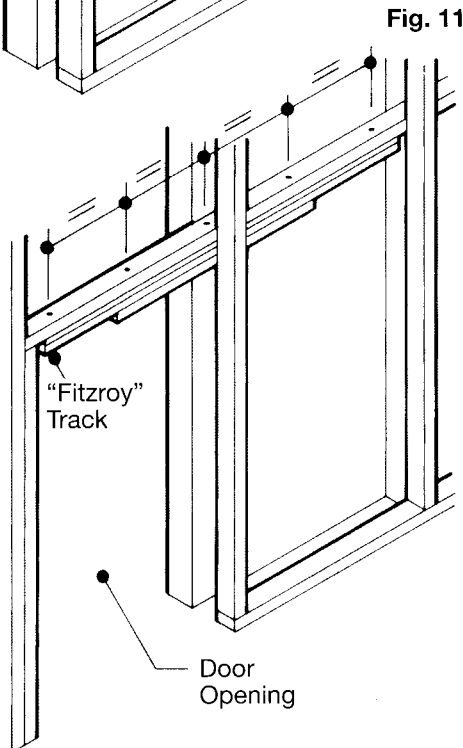

Fig. 11
2. Position the "Fitzroy" Track and drill pilot fixing holes into the lintel above the track (Fig. 11)